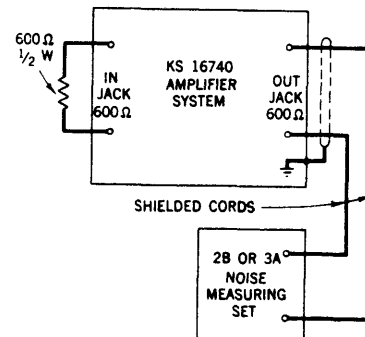

Fig. 2 – Test Setup for Measuring Noise
5.01 The noise test should be made in accordance with the test setup shown in Fig. 2. A 2B or 3A Noise Measuring Set should be used with 15 KC flat weighting. Chart II outlines the step procedure for making the test. The procedure will vary slightly depending on which noise set is used.
| 2 | Connect circuit as shown in Fig. 2. | |